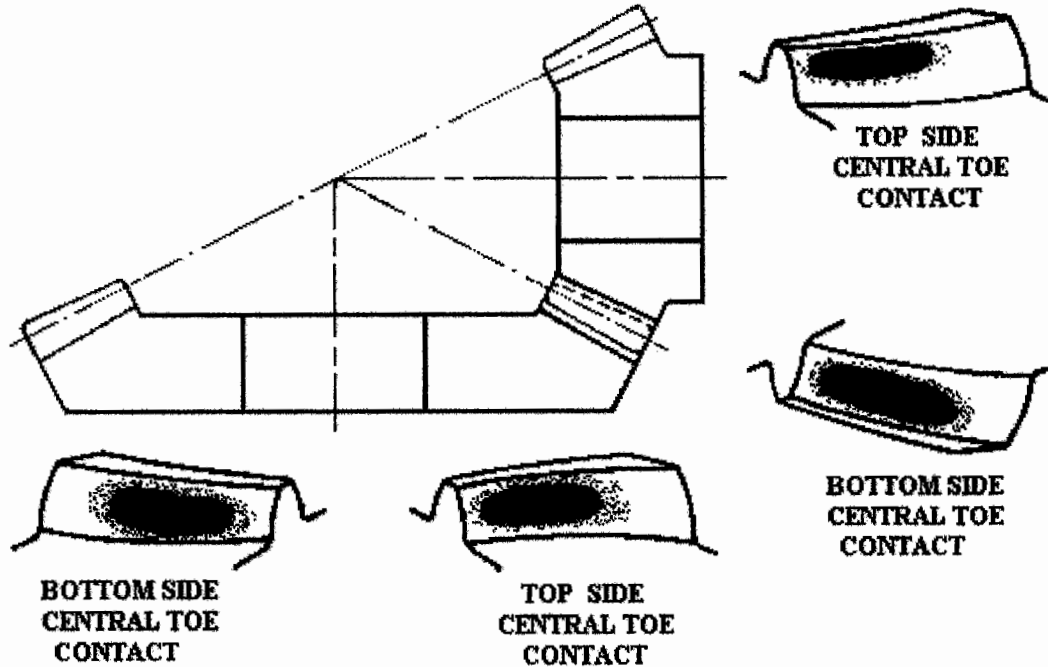

FIGURE 3
- 8.3 The correct tooth contact for a gear set is shown in Figure 3. If the tooth contact is correct and the backlash is within limits, proceed to step 10.0. If the tooth contact is correct and backlash need to be corrected, proceed to step 9.0.